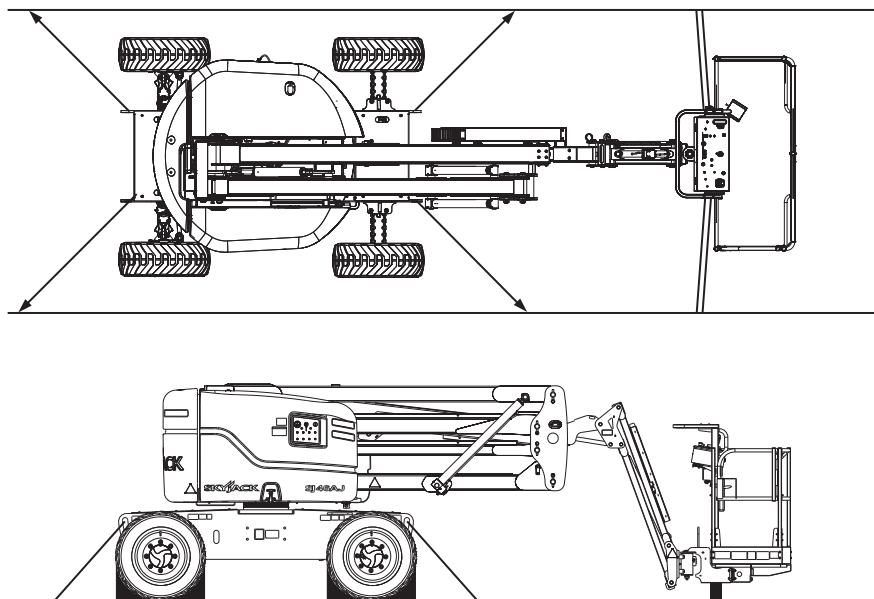

Figure 3-6. Tie-down Points
6. Anchor down aerial platform to transport surface using tie-down points (refer to Figure 3-6).